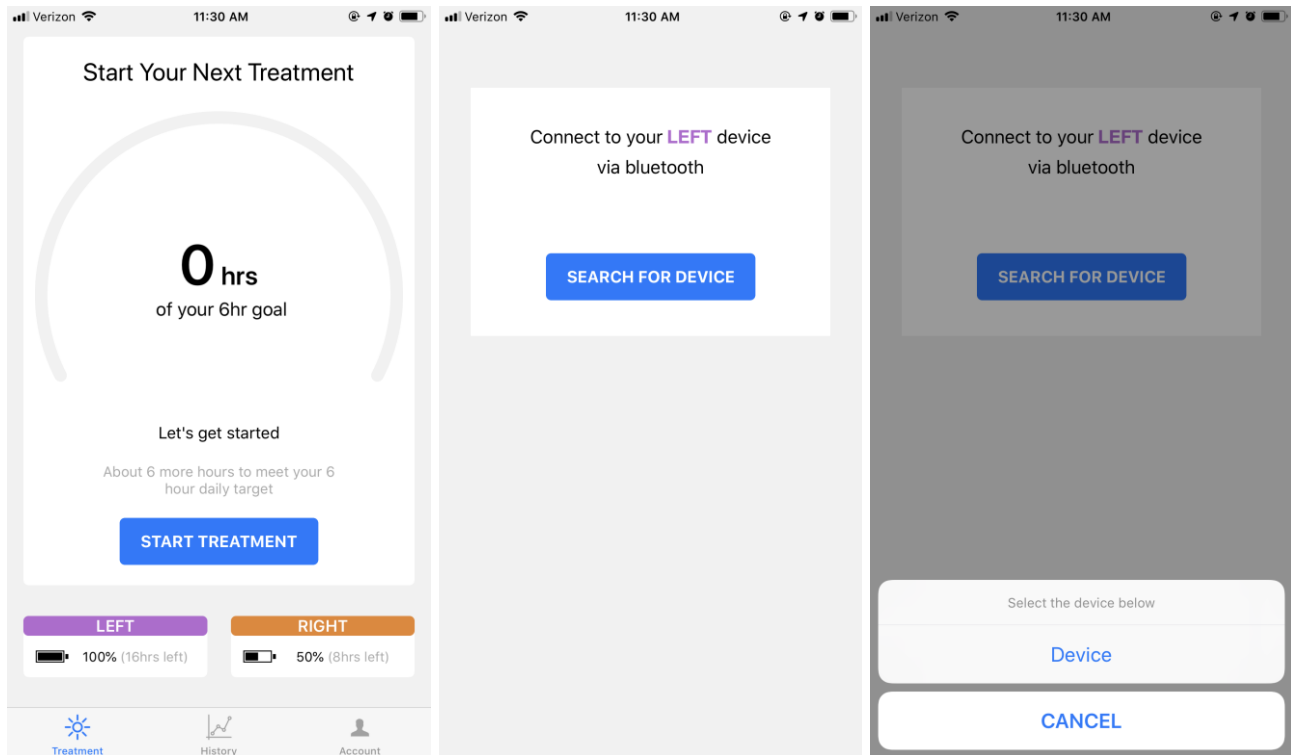

Figure 6: Connecting Cirvo Compression Device to Cirvo Mobile App
6. Follow instructions as prompted – **Figure 6 & 7** (Left Leg) and **Figure 8** (Right Leg)